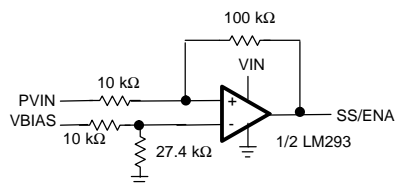

Figure 11. Undervoltage Lockout Circuit for PVIN Using Open-Collector or Open-Drain Comparator
If the PVIN input is controlled via a fast bus switch, it results in a hard-start condition and may damage the load (i.e., whatever is connected to the regulated output of the TPS54974). If a power-good signal is not available from the 2.5-V power supply, one can be generated using a comparator and hold the SS/ENA pin low until the 2.5-V bus power is good. An example of this is shown in Figure 11. This circuit can also be used to prevent the TPS54974 output from following the PVIN input while the PVIN power supply is ramping up.
2. Using the undervoltage lockout circuit of Figure 11.